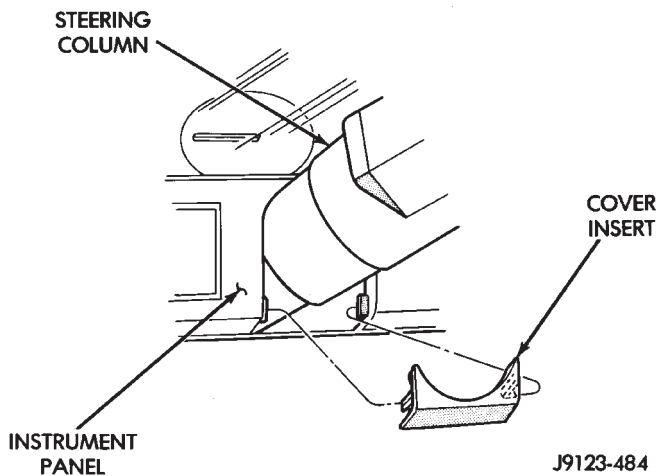

Fig. 13 Steering Column Cover Insert
(1) Remove the defroster duct bezel from the instrument panel.
(2) Remove the steering column cover insert from the instrument panel (Fig. 13).